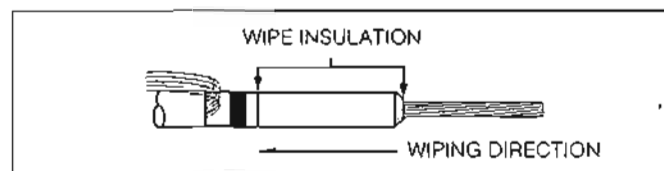

Figure 7.
- Clean insulation thoroughly with solvent-dampened rag, wiping from conductor end toward insulation shield. (Refer to Figure 7.)